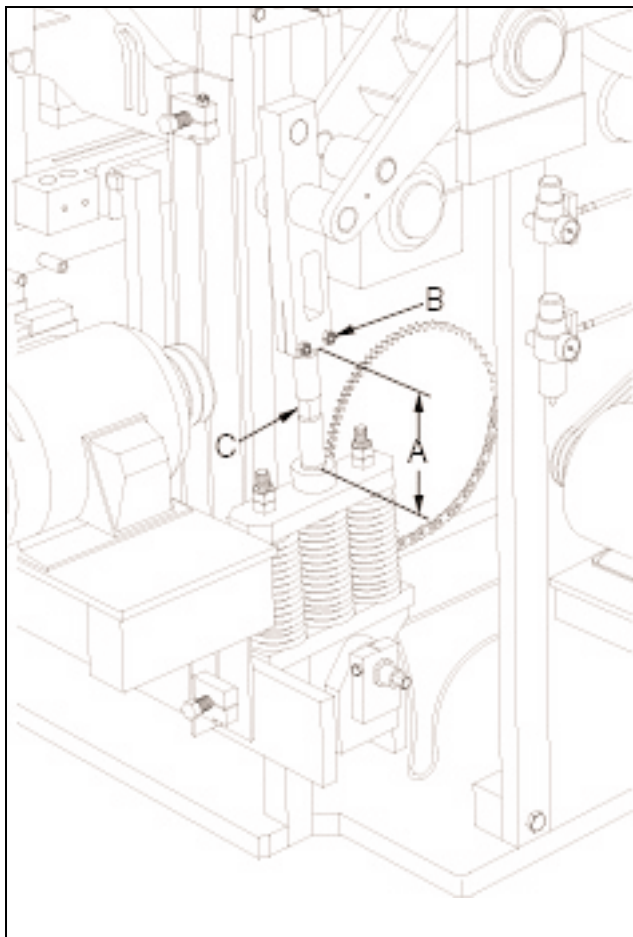

Figure 4.38 ADJUSTING PALLET RECEIVER LINKS
- 4.3.14 Adjust the pallet receiver link assemblies to a dimension of **7" [178mm]** between the upper and lower link assemblies (see figure 4.38) (A). To do so, loosen the two bolts and turn up or turn down with a wrench.